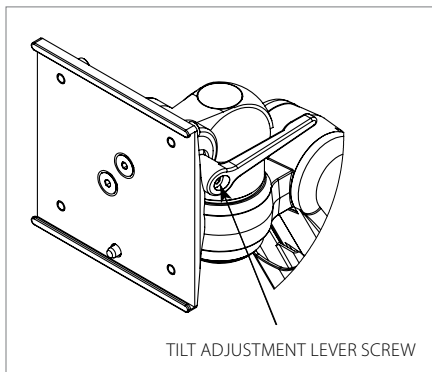
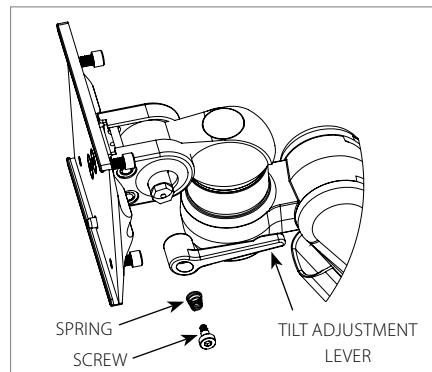
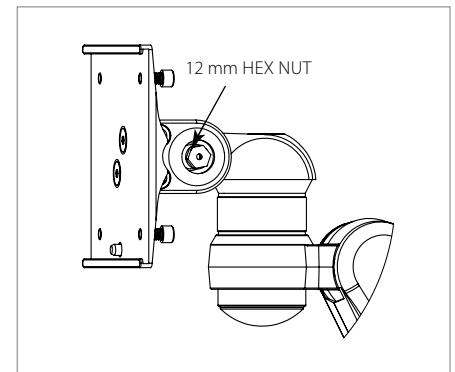

Figure 4
Figure 5
Figure 6
3. If a sufficient level of tightness cannot be achieved, use a 4 mm Allen Key to loosen the **TILT ADJUSTMENT LEVER SCREW** (Figure 4). Remove the **SCREW** and **SPRING** (Figure 5). Remove the **TILT ADJUSTMENT LEVER** to reveal the **12 mm HEX NUT** (Figure 6).